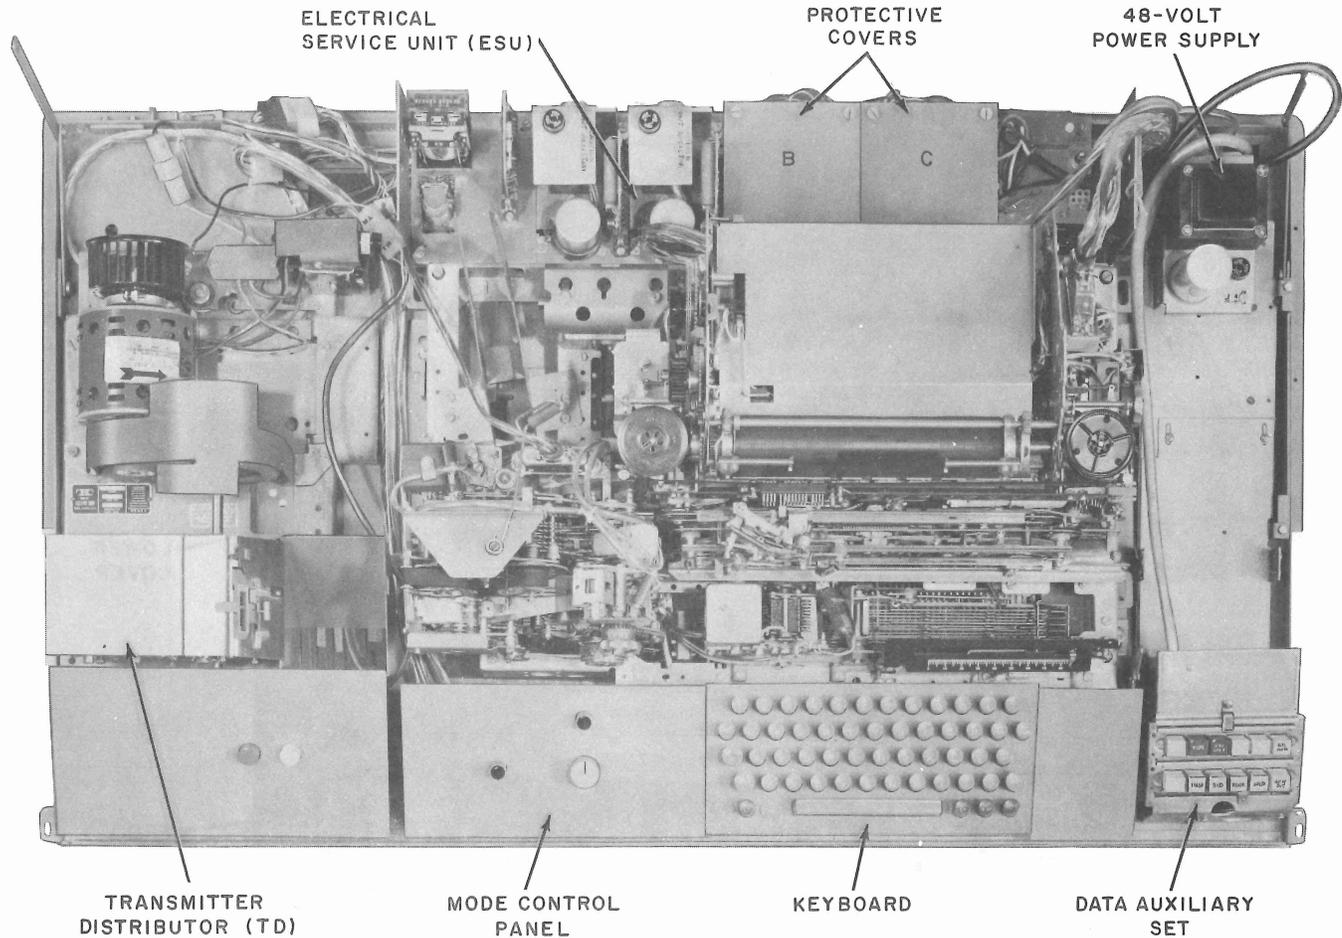

Fig. 11—35 ASR TTY Data Station—Top View With Cover Removed
- (1) Perform 3.01 (1) through (4).
- (2) Remove the R plug from its connector on the electrical service unit (ESU) (Fig. 11).
- (3) Remove the four screws and captive lockwashers that secure the typing unit to the subbase.
- (4) Remove the typing unit by lifting vertically and to the right.
- (2) Perform 3.02 (1) through (4).
- (3) Loosen four screws on the mode control and keytop faceplates (Fig. 11).
- (4) Remove four post screws at each corner of the keyboard base.
- (5) Disconnect the ground conductor at the right rear of the keyboard base.
- (6) Disconnect the F plug from the connector assembly.
- (7) Raise the right side of the mode control faceplate to facilitate removal of the keyboard.
- (8) Remove the keyboard by lifting it vertically from the TTY.
- (2) Disconnect the U and M plug from the connector assemblies (Fig. 11).
- (3) Remove the ground conductor from the TD base.